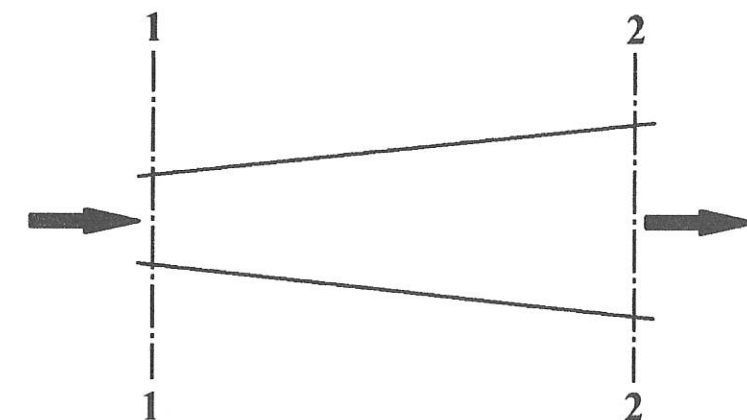

Figure 3b / Rajah 3b
- b) The diameter of a pipe in Figure 3b at section 1-1 and 2-2 are 200 mm and 300 mm respectively. If the velocity of water at section 1-1 is 4 m/s, determine: